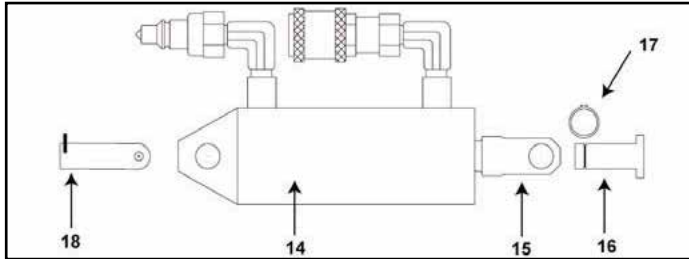
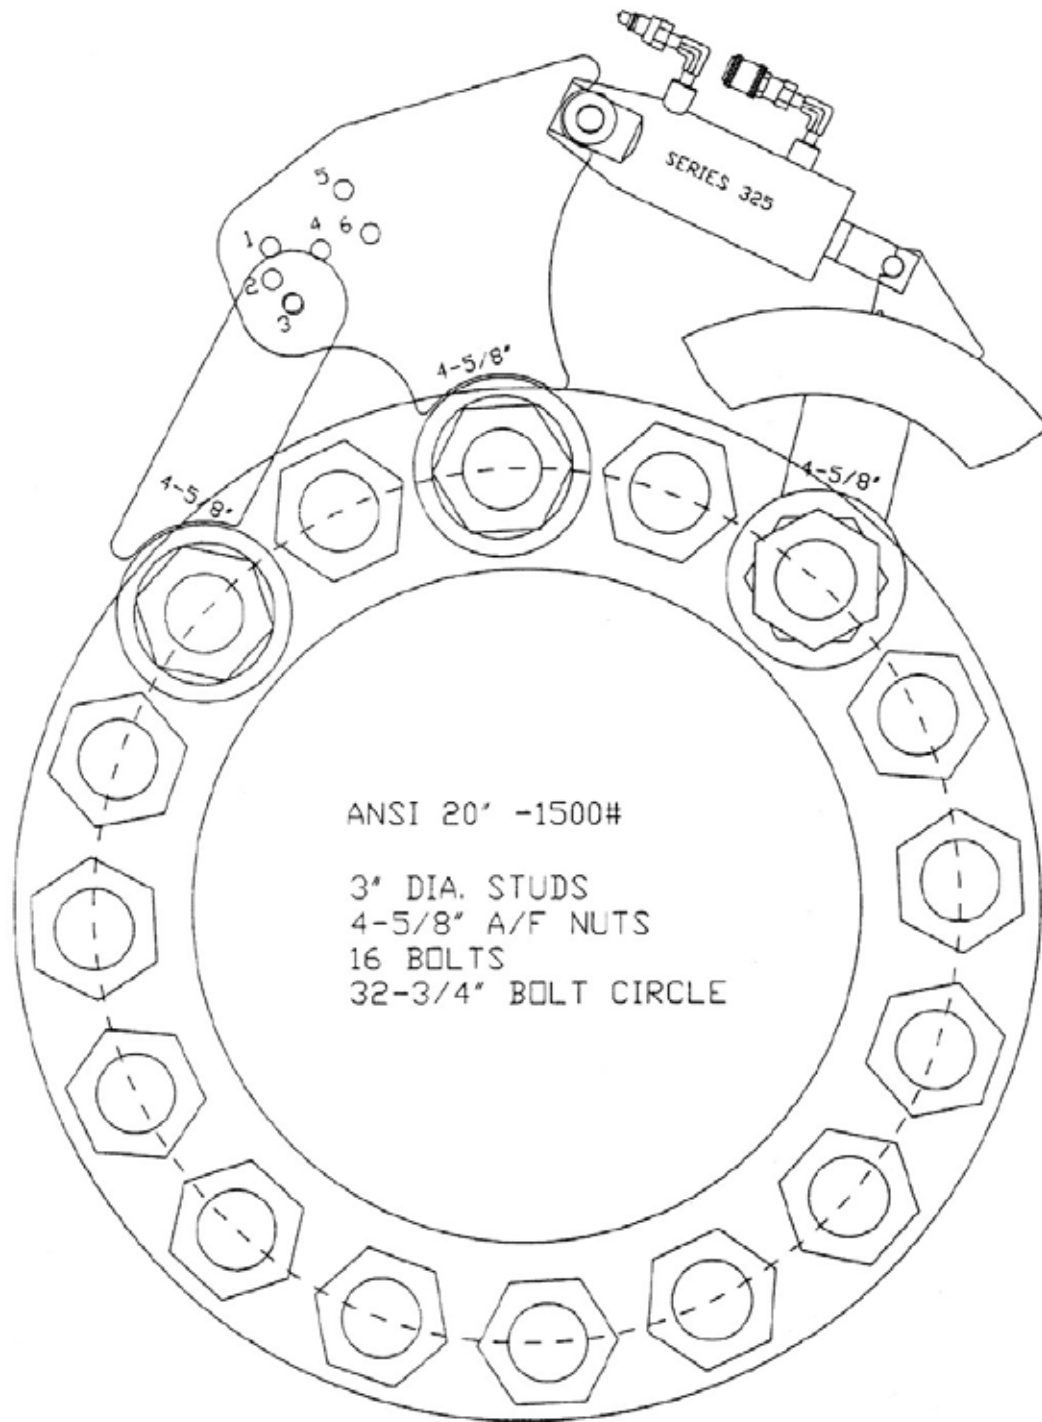

Figure 4
Figure 5
Figure 5 is a SAMPLE LAYOUT.
5. Insert the bolt (5) through the hole in the reaction leg (4) and the corresponding hole in the reaction plate (3) as shown in the layout (figure 4 is a sample layout) for that flange and tighten the nut (6).
6. Insert the pin (7) through the back clevis (8) of the hydraulic cylinder (2) and the clevis ring (9) on the reaction plate (3).
7. Place the reaction unit (3 & 4) and the wrench head (1) on the flange in the arrangement shown in the corresponding layout (Figure 5) for the flange. Take note of the number of bolts between the wrench head and the ring of the reaction plate, and between the rings of the reaction plate and reaction leg.